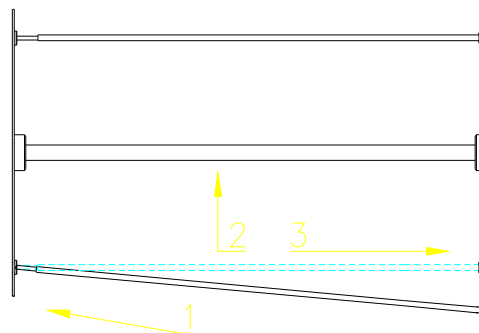

Fig 5
- Put the simple skewer (1) in the spit (3) until it reaches the safety limit of the spit. Then fix it with the screw (2). (See fig. 5). Place a chicken on the spit and hold it in place with the skewer already in position. Put the double skewer (4) on the spit and in a chicken. Repeat this operation until the spit is fully loaded and finally put a simple skewer in place and fix it with its screw.
- Open the door till it is blocked, place the round end of the spit in its place like movement 1 in fig 5, then press to your left side so you can place the square end on its position, movement 2 and 3. Make sure that the square end has gone inside the square hole.